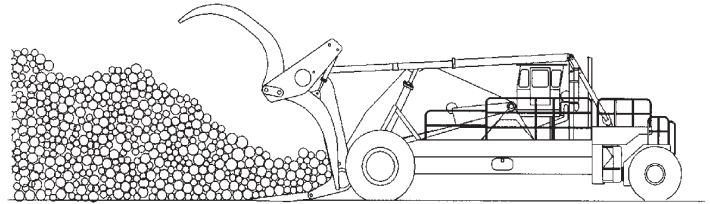

Figure 5-18
2. Move into the deck and simultaneously tilt the carriage fully forward. The logs should roll up into the back of the carriage. Move into the deck as far as possible (See Figure 5-18).